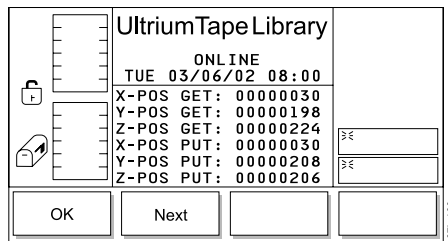

Figure 102. Position Dialog
- To view the coordinates that the X-, Y-, and Z-axes use to move cartridges to and from the selected slot, press the button below the **Next** softkey. The Position Dialog displays (see Figure 102).